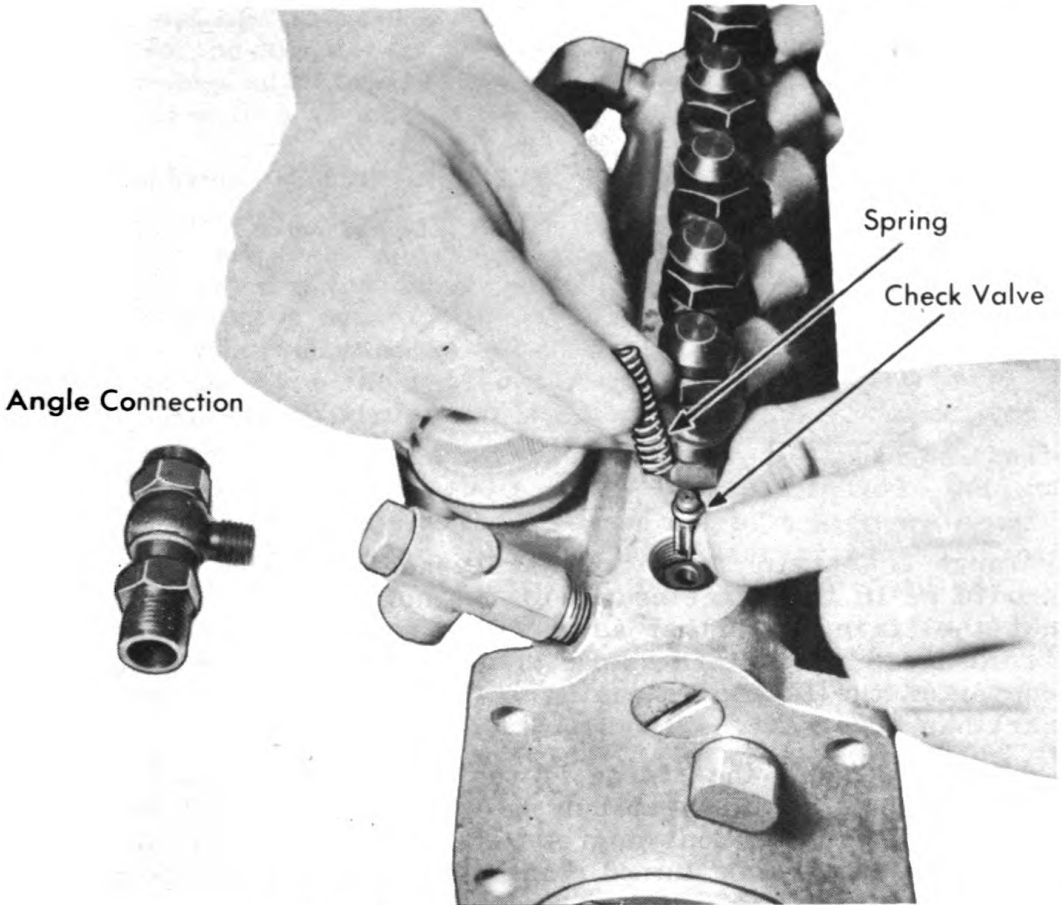

Figure 38. Removing Check Valve
5. To make the timing accurate, remove the No. 1 injection line at the fuel injection pump. Remove the No. 1 check valve at the angle connection of the fuel injection pump and replace the angle connection without the check valve. See Figure 38.